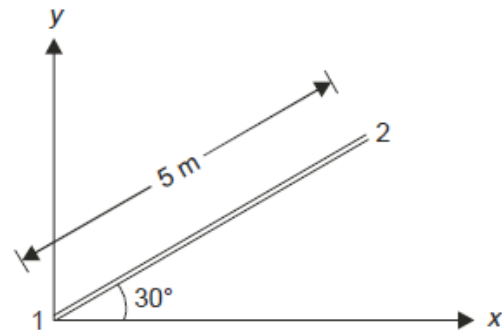

Figure P3.6
6. Assemble element stiffness matrix for the member of plane frame shown in **Figure P3.6**, if it is oriented at angle 30° to the x-axis. Take $E = 200 \text{ GPa}$, $I = 4 \times 10^{-6} \text{ m}^4$ and $A = 4 \times 10^{-3} \text{ m}^2$.